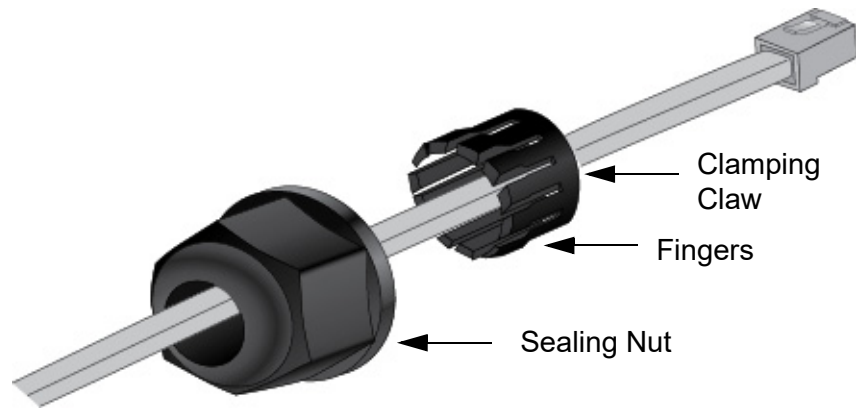

Figure 10. Sliding the Ethernet LAN Cable Through the Sealing Nut and Clamping Claw
4. Slide the Ethernet LAN cable through the sealing nut and clamping claw. See Figure 10. The fingers on the clamping claw need to be pointing towards the sealing nut.